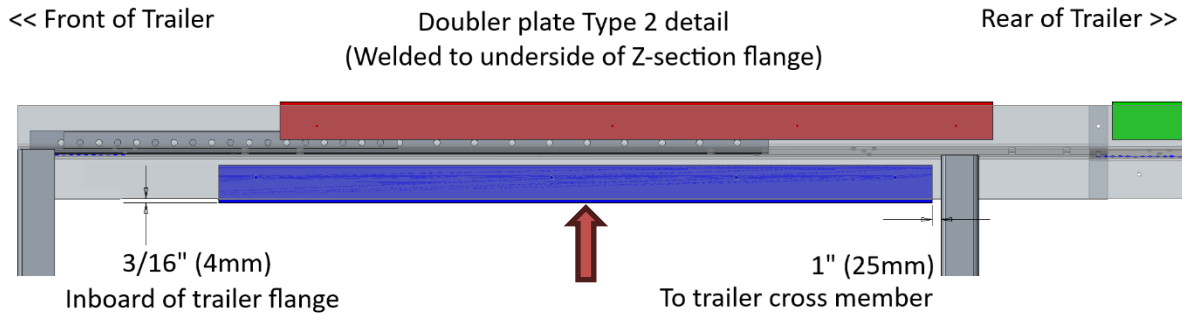

Figure 4: Location of Type 2 Doubler plate
2. Figure 4 shows the location of the Doubler plate for the curb side of the chassis only, located underneath the bottom flange of the Z-section.